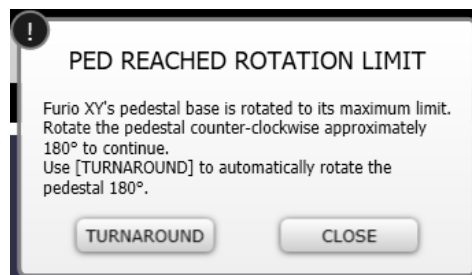

Figure 56 - Furio XY Pedestal Rotation Limit Dialog
- › reaching or exceeding pedestal orientation limits for Furio XY pedestals prompt the following notification shown in Figure 56. Using **Turnaround** enables automatic 180° pedestal rotation.